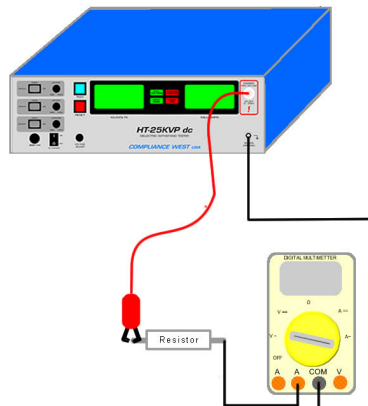

Figure 5-2. Current Measurement with 100 W High Voltage Resistor.
2. Connect the output of the HT-25KVP dc through a 100 watt high voltage load resistor (2M $\Omega$ ) in series with an external current meter returning to the Return jack on the front panel of the HT-25KVP dc as is shown on figure 5-2.